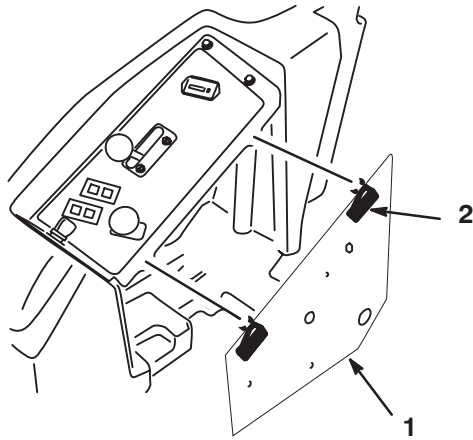

Figure 23
36. Unlatch the control panel cover and move it aside (Fig. 23).